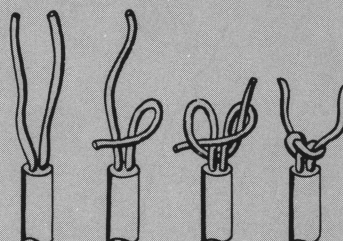

Fig. 4
4. Tie Underwriters' knot. (Fig. 4).